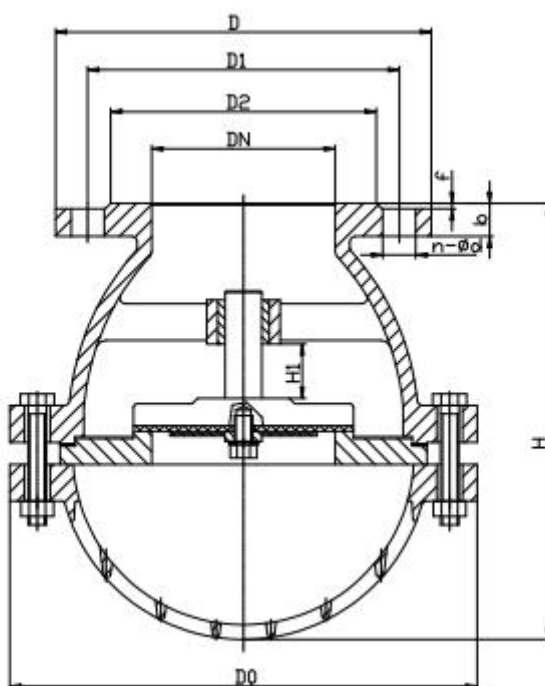

Figure 1 Foot Valve
- 3.1 The basic structure of this valve is shown in Figure 1.